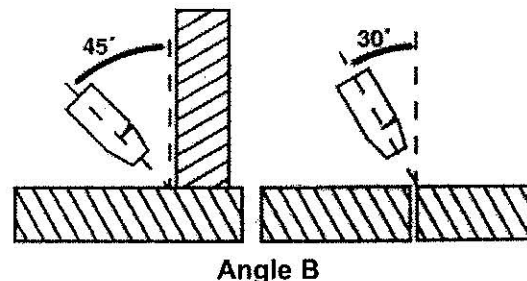

Figure 10. Gun Position, Angle B
2. Angle B (Figure 10) can be varied for two reasons: to improve the ability to see the arc in relation to the weld puddle and to direct the force of the arc.